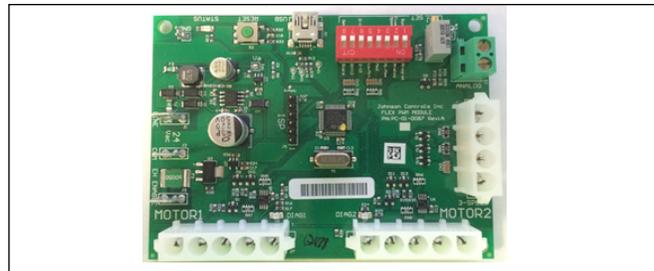

Figure 70 – G3 PWM Board
- a. Locate the G3 PWM board within the control enclosure (See Figure 70).